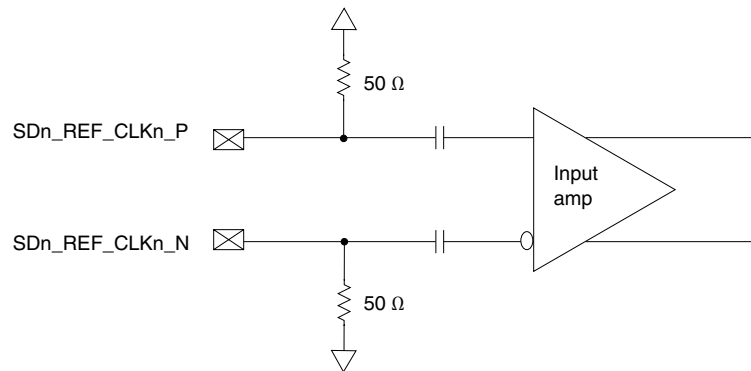

Figure 36. Receiver of SerDes reference clocks
- The $SDn_REF_CLKn_P$ and $SDn_REF_CLKn_N$ are internally AC-coupled differential inputs as shown in Figure 36 on page 116. Each differential clock input ($SDn_REF_CLKn_P$ or $SDn_REF_CLKn_N$) has on-chip 50- Ω termination to $SGNDn$ followed by on-chip AC-coupling.